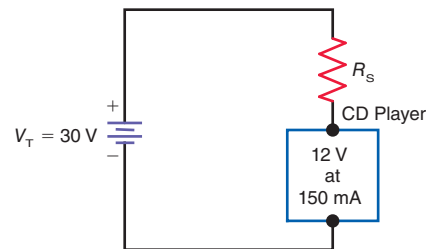

Figure 5-32
5.26 In Fig. 5-32, calculate the value for the series resistor, R_s that will allow a 12-V, 150-mA CD player to be operated from a 30-V supply.